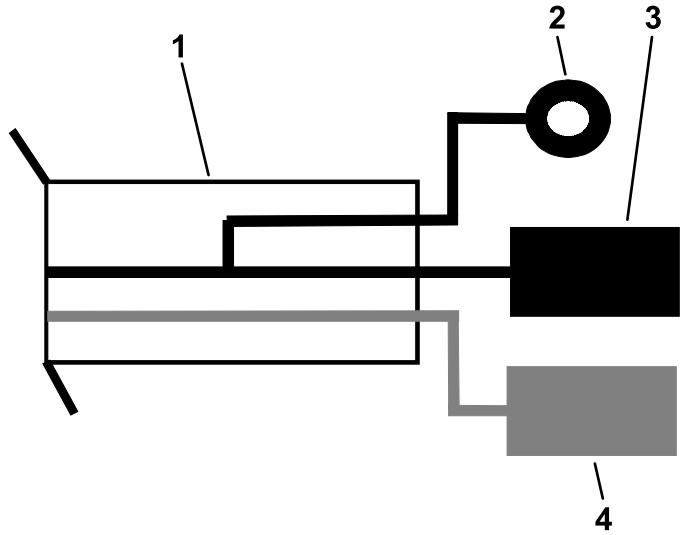

Figure 3
5. Install the black ground wire to the ground wire on the Power Converter Kit wire harness (Figure 3).
6. Install the red power wire to the power wire on the Power Converter Kit wire harness (Figure 3).